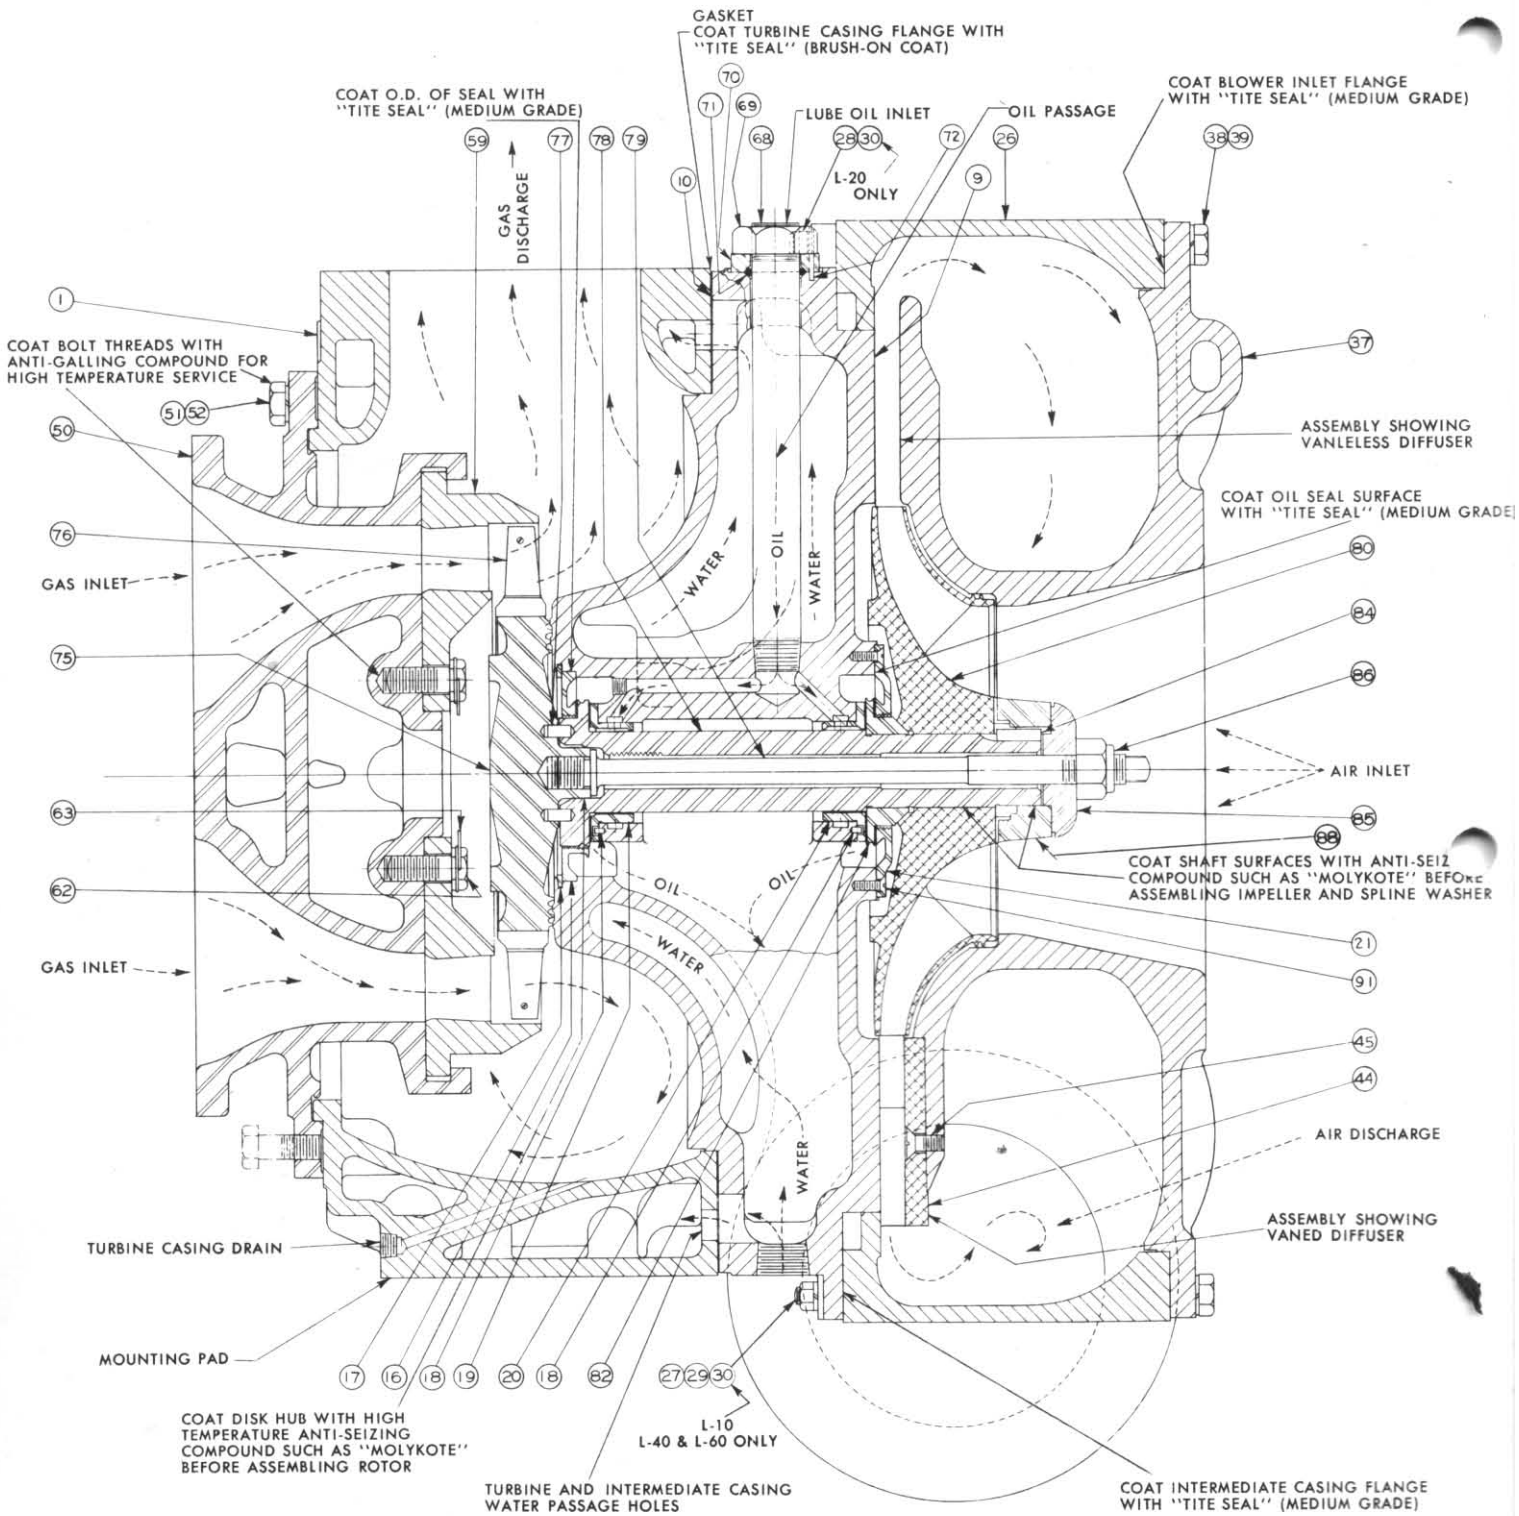

Fig. 9—Cross-sectional Assembly
1. Prevent rotor rotation by applying a wrench to the projected flats on the front of the stud (79), Fig. 9, and remove the elastic stop nut (86) and nosepiece (85). Support the turbine disk by hand and with a soft hammer tap the free end of the stud forcing the turbine disk from its mounting. Do not remove the stud from the turbine disk.
2. With the special pliers provided in the tool kit, remove the turbine end snap ring (17).
1. Prevent rotor rotation by applying a wrench to the projected flats on the front of the stud (79) Fig. 9, and remove the elastic top nut (86) and nosepiece (85).
2. Slide on thrust collar (82) Fig. 9. Insert oil seals coating surfaces with sealing compound as shown in Fig. 9. Install snap ring (17) with beveled side out. Install screws (91) locking securely by peening.
3. Coat the disk hub with anti-seizing compound (see Fig. 9.) Tap the turbine disk and stud assembly in place. The turbine disk will mount only one way, determined by the relative polar position of the pins (77) in the shaft and matching holes in the disk.
1. Before replacing the disk and shaft assembly, insert the turbine end oil seal, coating the surfaces with sealing compound as shown in Fig. 9. Install snap ring (17) with beveled side out.
3. Slide on thrust collar (82) Fig. 9. Insert blower end oil seal, coating the surfaces with sealing compound as shown in Fig. 9. Install screws (91), locking securely by peening.
4. Assemble impeller (80) and spline washer (88). These parts must be assembled so that the punch marks line up to maintain rotor balance. Coat impeller and spline washer portions of shaft with anti-seizing compound (See Fig. 9).
1. If the nozzle ring has been removed from the inlet casing, upon assembly, coat the bolts with high temperature anti-galling compound to prevent galling of the threads due to heat. If the turbine inlet casing has been removed, the threads of the bolts used to secure the inlet casing to the turbine casing should be coated with an anti-galling compound (See Fig. 9.)
2. With the intermediate casing guide pins in place, install a new casing gasket (10). See Fig. 9 for cementing.
4. The intermediate casing and blower casing machined surfaces should be coated lightly with sealing compound (see Fig. 9)